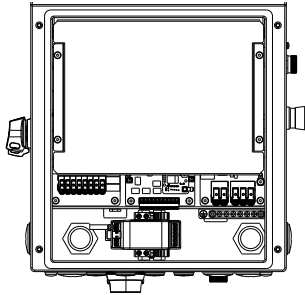

Figure 4.9 Connection Area of Inverter
- a. Switch the Grid Supply Main Switch (AC) OFF.**
Please see figure 4.9, there are four knockouts in the wiring box. The two knockouts on the left (bottom and side) are for the DC conduit entry. The two knockouts on the right (bottom and side) are for the AC conduit entry. All knockouts in the wiring box can accept trade size 1 inch (ID) conduit.
Please refer to figure 4.9, The acceptable wire size range is from 12 AWG to 10 AWG, copper conductors only; refer to local code for appropriate wire size.
Please see figure 4.9. Both DC and AC ground cable can be connect to ground terminal above DC switch. The acceptable wire size for ground is **12AWG to 4 AWG**. The torque setting is 26 in-lbs (3 Nm) .